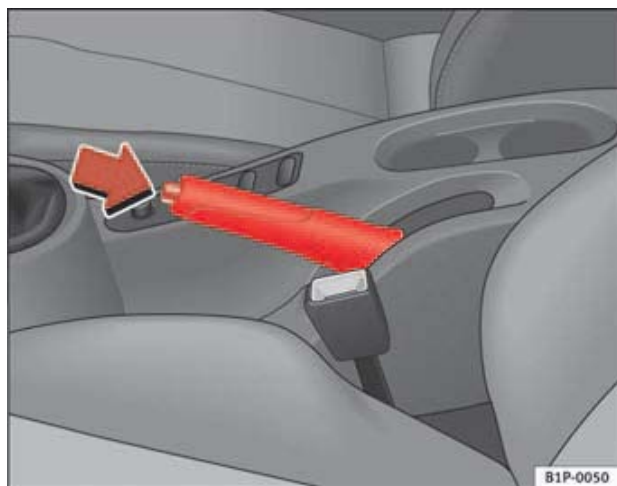

Fig. 124 Handbrake between the front seats
- Pull the handbrake lever up firmly ⇒ **fig. 124**.
- Pull the lever up slightly and press the locking knob in the direction of the arrow ⇒ **fig. 124** and guide the handbrake lever down fully ⇒